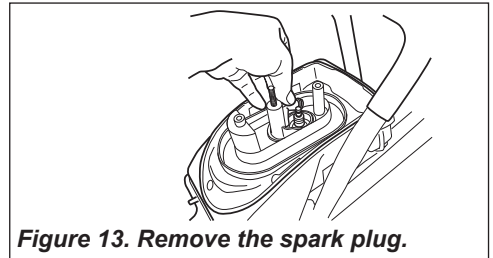

Figure 13. Remove the spark plug.
4. Remove the plug cap and disconnect the spark plug by using the plug wrench. See Figure 13. Check to see if the spark plug electrode is fuel-soaked.